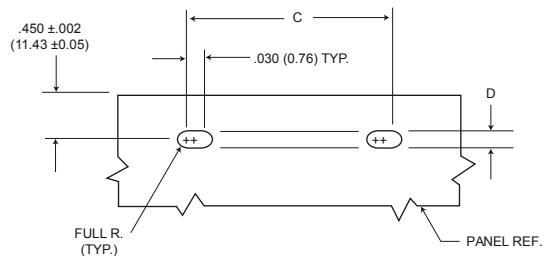

Figure 3
3. Edgeboard mounting bracket (figure3) uses #2-56 screws. Dimension $.450 \pm .002 (11.43 \pm 0.05)$ locates the MD receptacle flush with the end of the board.